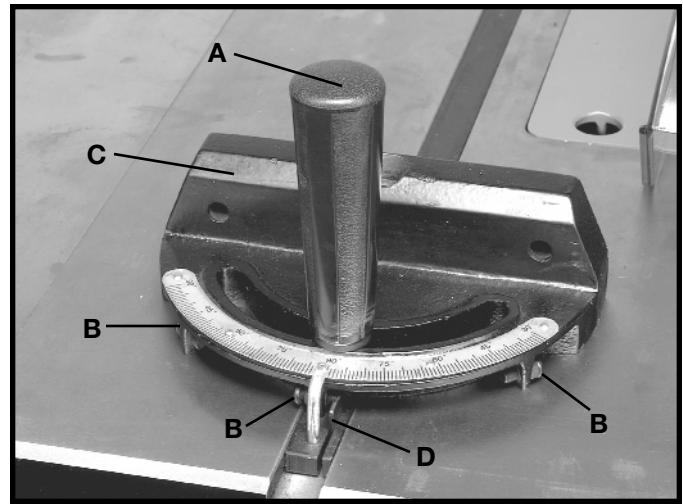

Fig. 40
The miter gage is equipped with adjustable index stops at 90 degrees and 45 degrees right and left. Adjustment to the index stops can be made by tightening or loosening the three adjusting screws (B) Fig. 40, with allen wrench supplied.
To rotate the miter gage, loosen lock knob (A) Fig. 40, flip the stop link (D) down and out of the way, and move the body of the miter gage (C), to the desired angle.
The miter gage body (C) can stop at 90 degrees and 45 degrees both right and left by flipping the stop link down and out of the way and moving the miter gage body (C) past the 90 and 45 degrees mark and flipping the stop link (D) back up so that the stop link (D) will be able to contact the adjusting screws (B) at the desired 90 or 45 degree angle. To rotate the miter gage body past these points, the stop link (D) Fig. 40, must be down and out of the way.